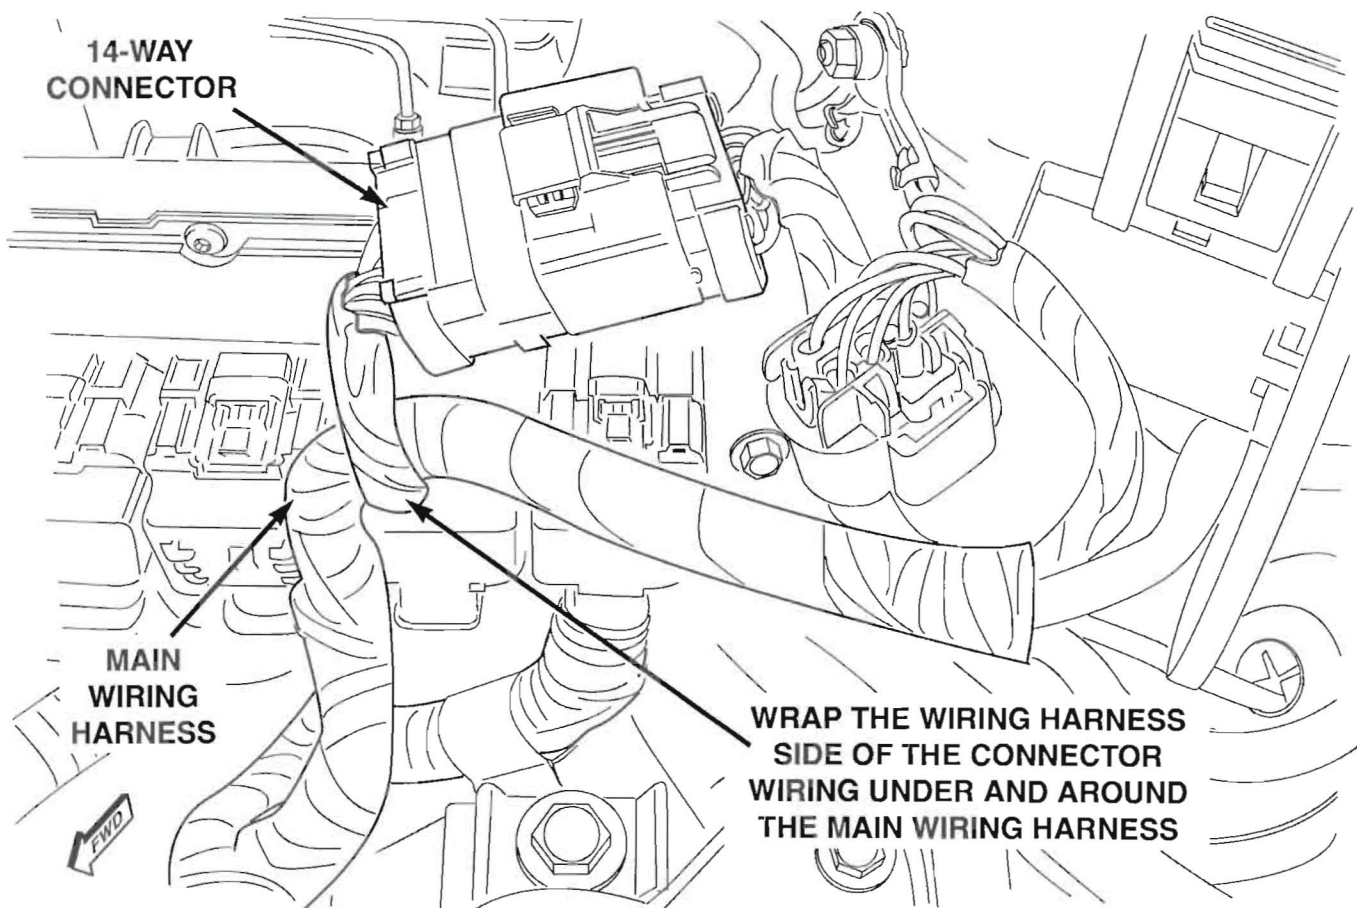

Figure 3
7. Wrap the harness side of the 14-way connector **under and around** the main wiring harness and reconnect the 14-way connector (Figure 3). Route the 120 volt engine block heater cord in the same manner, away from the left transaxle mount.